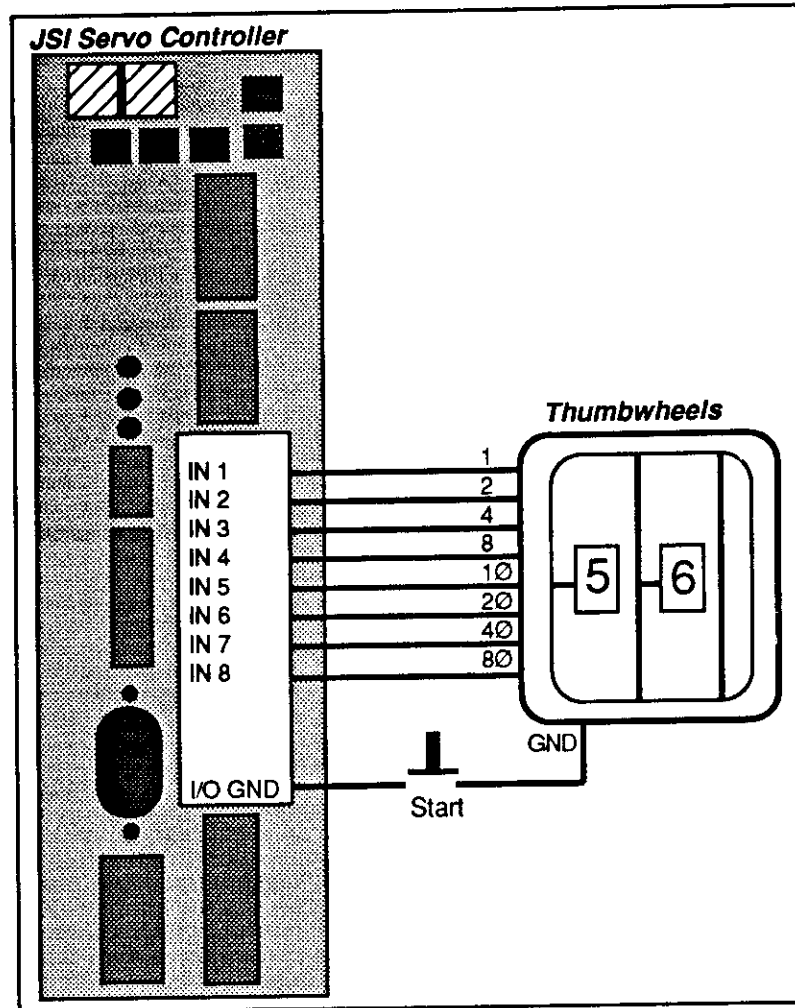

Figure 4-2. JSI Thumbwheel Installation
You must install your thumbwheels as shown in Figure 4-2.
**Step 3** Connect the thumbwheels to the **IN 1 - IN 8** inputs as shown in Figure 4-2.